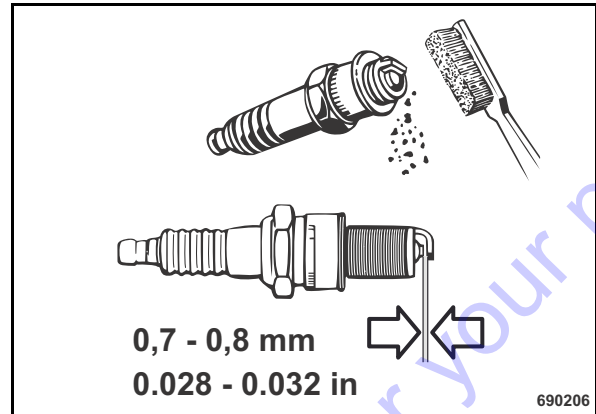

Fig. 52
- Check the spark plug (Fig. 52) visually and clean it if necessary.